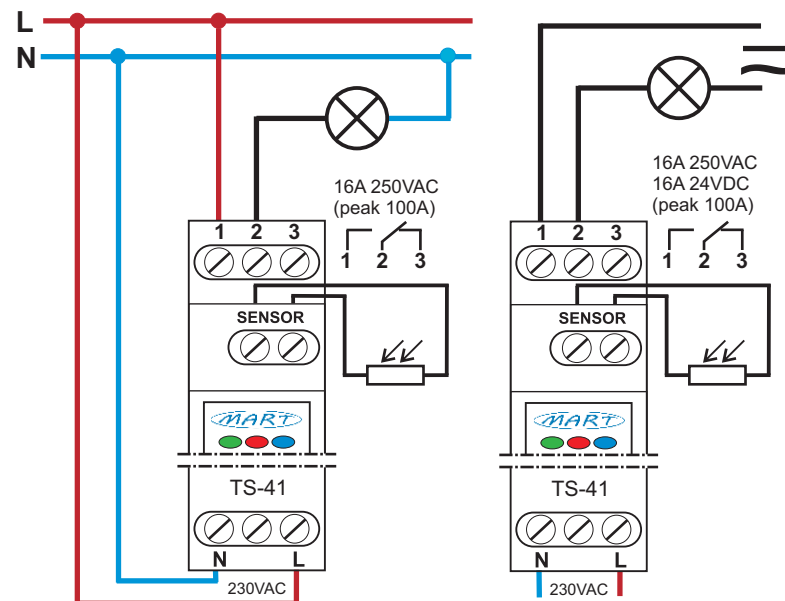

Fig. 2.: Connection diagrams for the TS-41-4 TWILIGHT SWITCH automatic device.
3. connect the wires in accordance with the diagram (fig. 2)